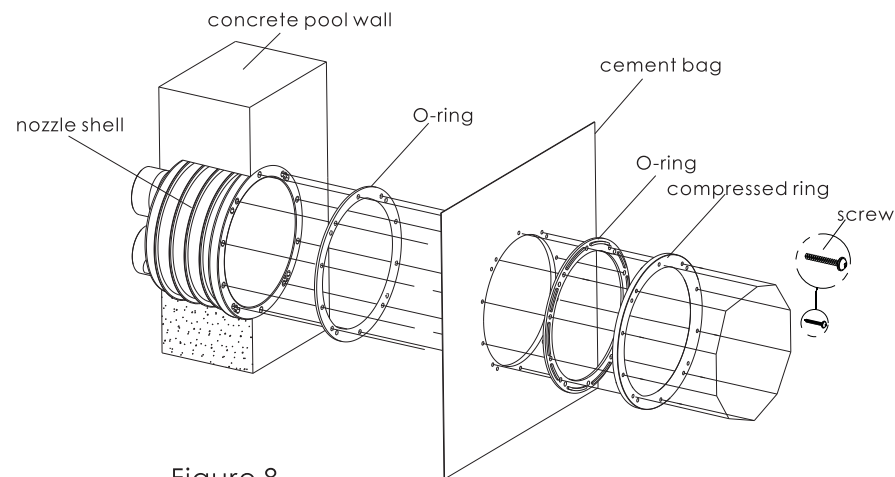

Figure 8
- a) Embedded the counter current jet outer casing inside the cement wall and the surface of the outer case should be completed with the cement surface.(figure 8)
- c) Used 10 screws of M6X30 and fixed the rubber ring into the mounting ring. (figure 8)